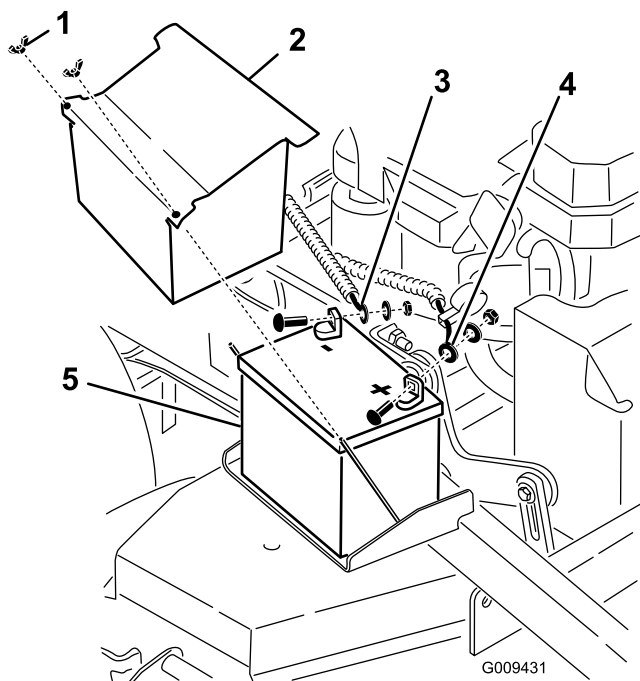

Figure 52
4. Disconnect the negative battery cable from the negative (-) battery terminal (Figure 52).
6. Remove the positive (red) battery cable (Figure 52).
7. Remove the battery hold down plate (Figure 52), and remove the battery.
1. Place the battery onto the machine (Figure 52).
3. Install the positive (red) battery cable to positive (+) battery terminal with a nut, a washer, and a bolt (Figure 52).
5. Install the negative battery cable and the ground wire to the negative (-) battery terminal with a nut, a washer, and a bolt (Figure 52).